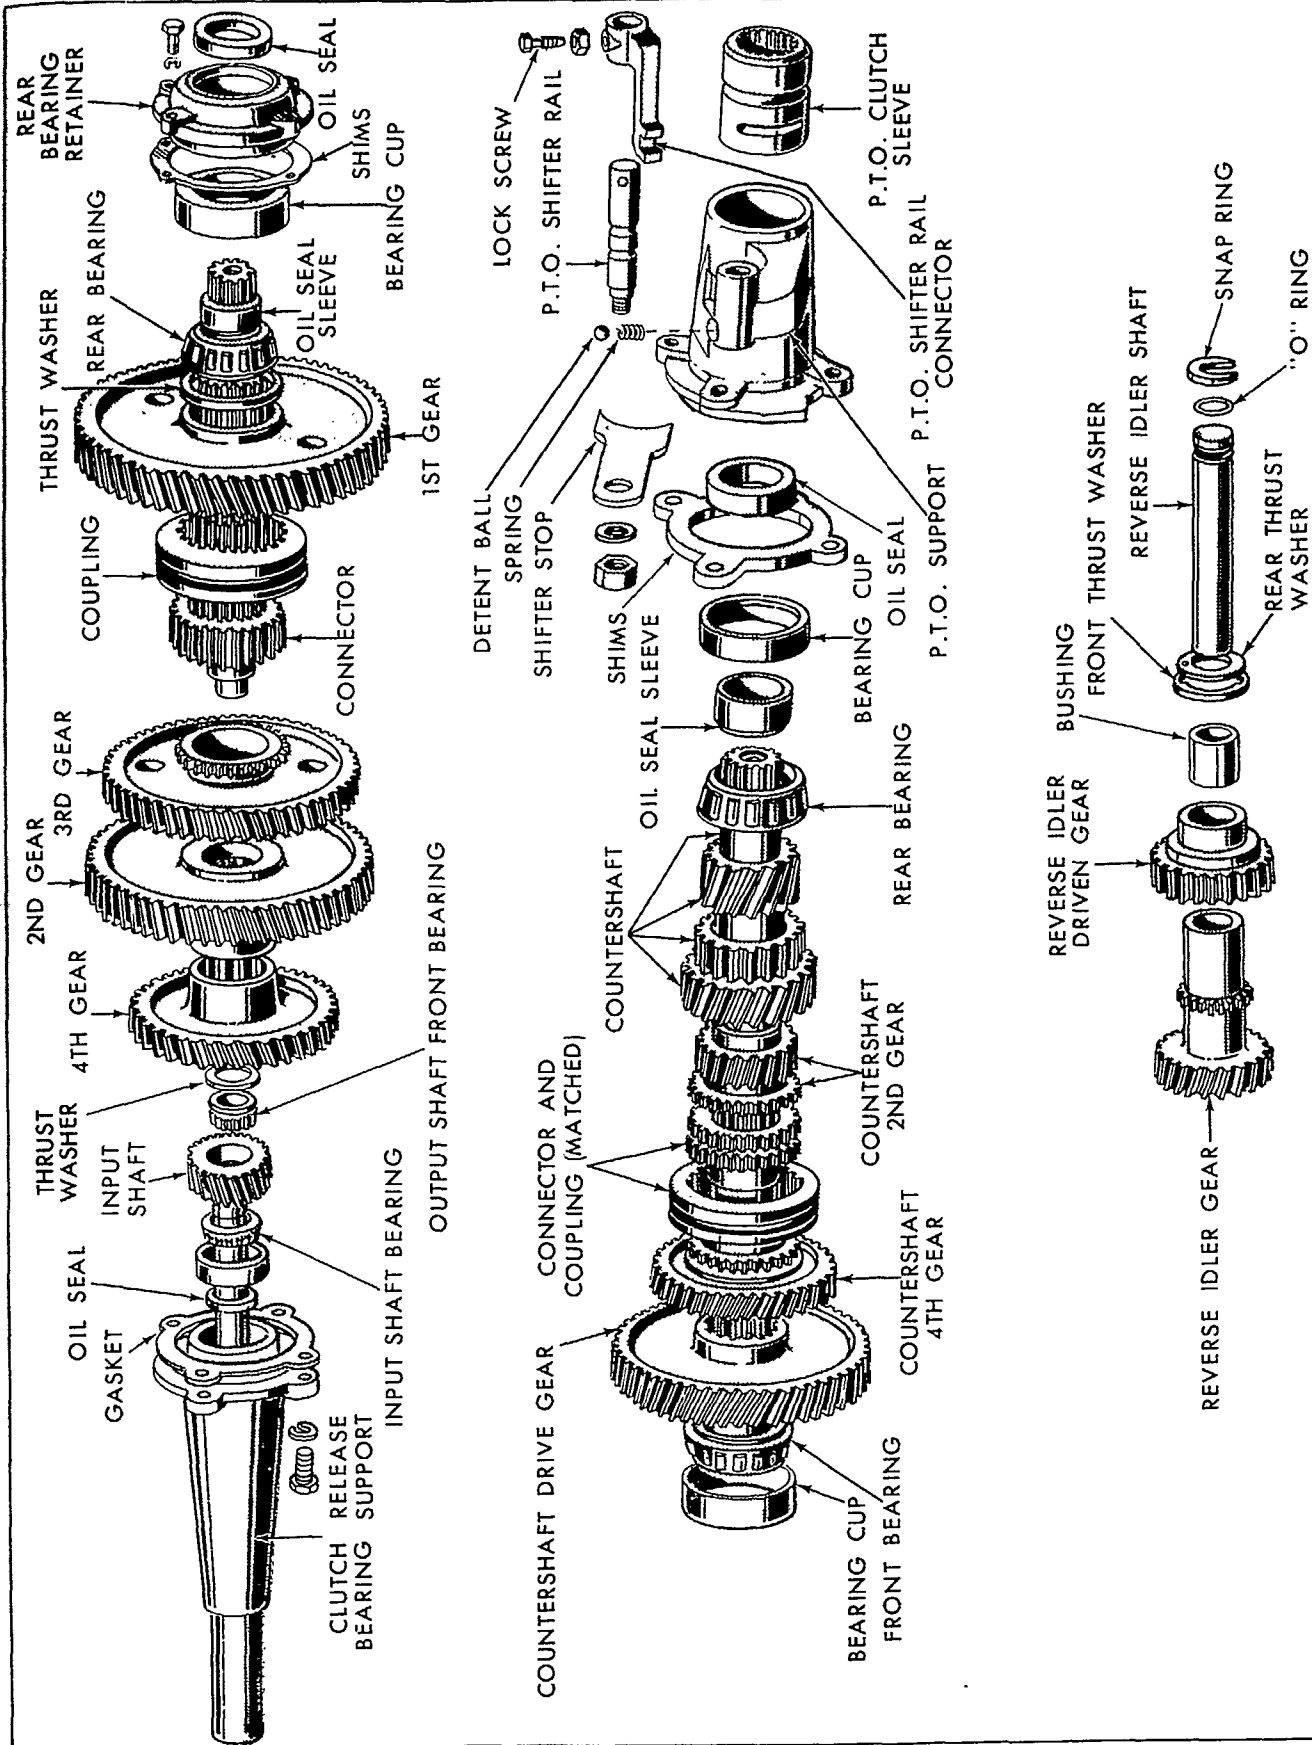

Figure 11
2. Remove the four bolts and lock washers that attach the clutch release bearing support assembly, Figure 11, to the transmission case. Remove the input shaft and support assembly as a unit.
1. Remove the four bolts and lock washers holding the output shaft bearing retainer, Figure 11, to the case and remove the retainer. Keep the shims together to facilitate assembly.
1. Remove the four bolts and lock washers that attach the P.T.O. support and shifter assembly, Figure 11, to the rear of the transmission case. Remove the assembly and keep the shims together to permit proper assembly.
2. Remove the nut and lock washer that retains the P.T.O. shifter stop to the shift rail and remove the shifter stop from its location in the P.T.O. clutch sleeve, Figure 11.
3. Install the shift rail detent spring and ball, Figure 11. Push the ball down far enough to permit partial insertion of the shifter rail into the housing. Then, place the shifter stop in the groove in the clutch sleeve and push the shifter rail into the shifter stop. Install the lock washer and nut and tighten the nut securely.
4. Remove the four bolts and lock washers that attach the clutch release bearing support assembly, Figure 11, to the transmission case. Remove the input shaft and support assembly as a unit.
7. Remove the four bolts and lock washers holding the output shaft bearing retainer, Figure 11, to the case and remove the retainer. Keep the shims together to facilitate assembly.
10. Remove the four bolts and lock washers that attach the P.T.O. support and shifter assembly, Figure 11, to the rear of the transmission case. Remove the assembly and keep the shims together to permit proper assembly.
11. Slide the countershaft assembly, Figure 11, to the rear and lift it out of the case.
15. Remove the snap ring and O-ring from the reverse idler shaft, Figure 11.
1. With Bearing Cup Pulling Attachment No. 943 and Slide Hammer No. 943-S, remove the rear bearing cup and oil seal from the retainer, Figure 11.